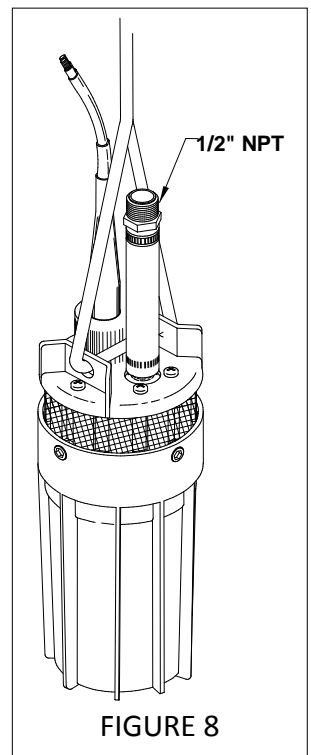

FIGURE 8
3. Install the 6 inch hose and fitting (1/2" NPT-M x 1/2" BARB) (Fig. 8)
4. Hook-up Safety Line (Sling) (Fig. 8)